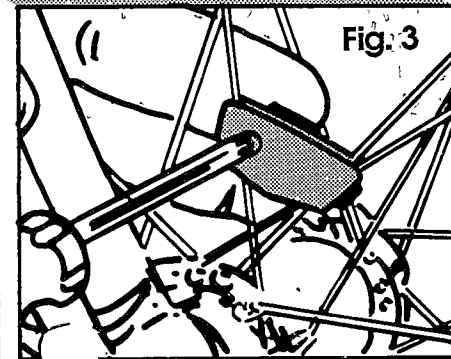

Fig. 3
2. Position the magnet on the right side of the wheel, near the point where two spokes intersect. The magnet should rest between the spokes with flat side out. (Fig. 3)